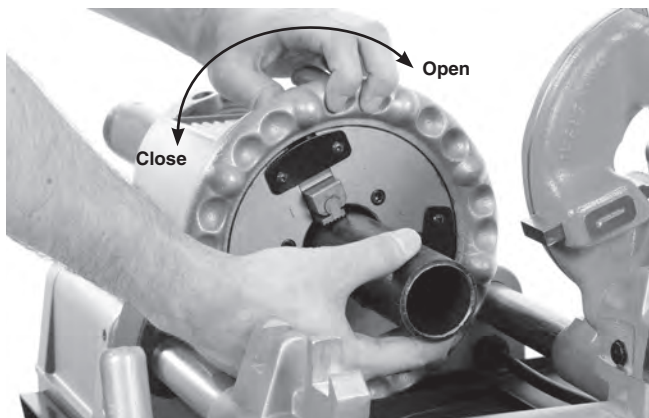

Figure 9 – Chucking Pipe
5. Turn the front chuck handwheel counterclockwise (viewed from front of machine) to close down onto pipe. Make sure that the pipe is centered in the jaws. Use repeated and forceful counterclockwise spins of the handwheel to secure the pipe in front chuck (Figure 9).